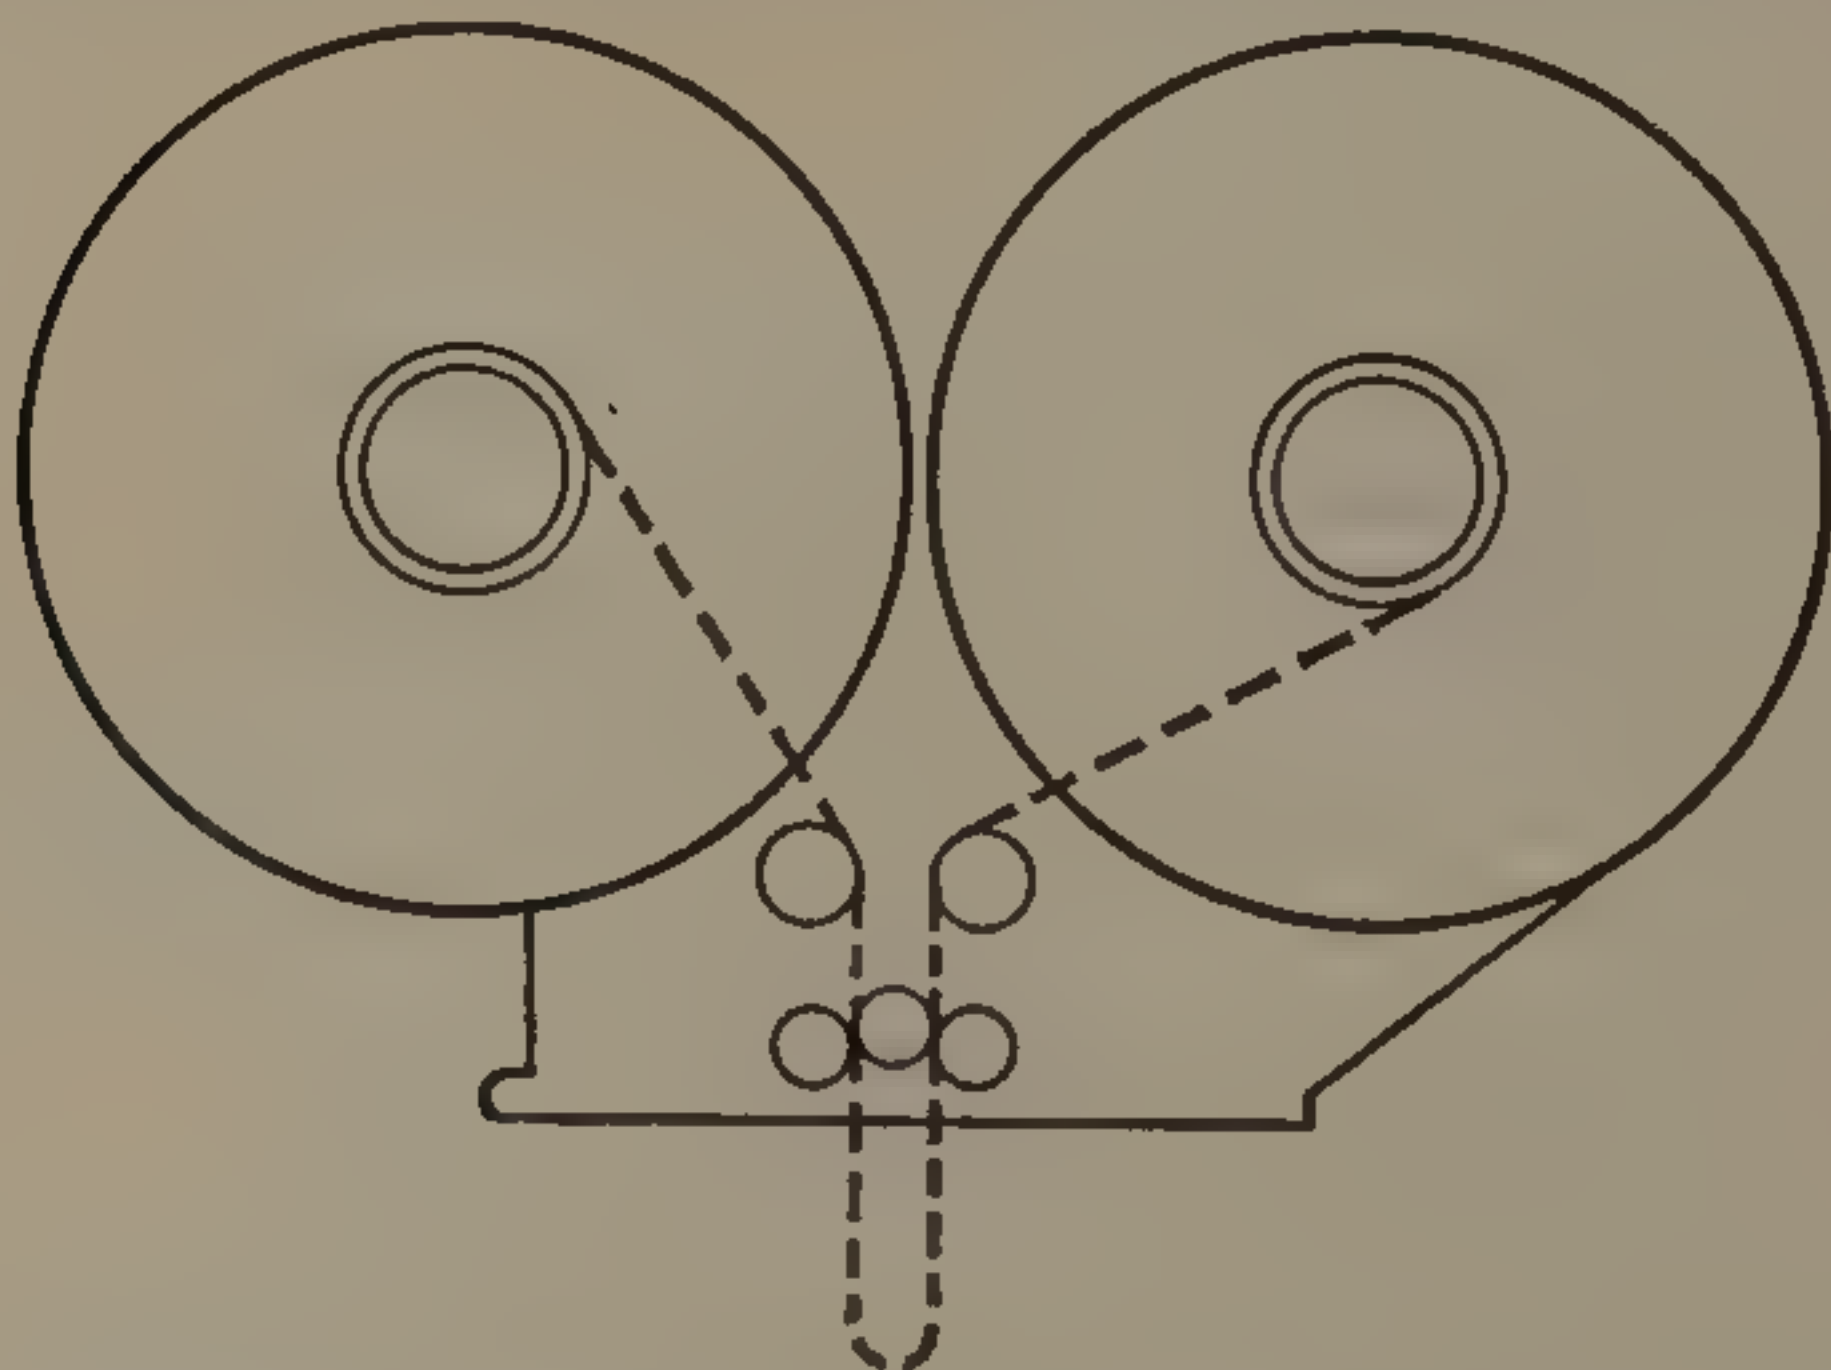

Fig. 2. Correct threading path for Mitchell magazines.
- (iii) thread the end of the film through the opening in that chamber, so that it will go round the first guide roller and run through the two plush rollers (see Fig. 2);